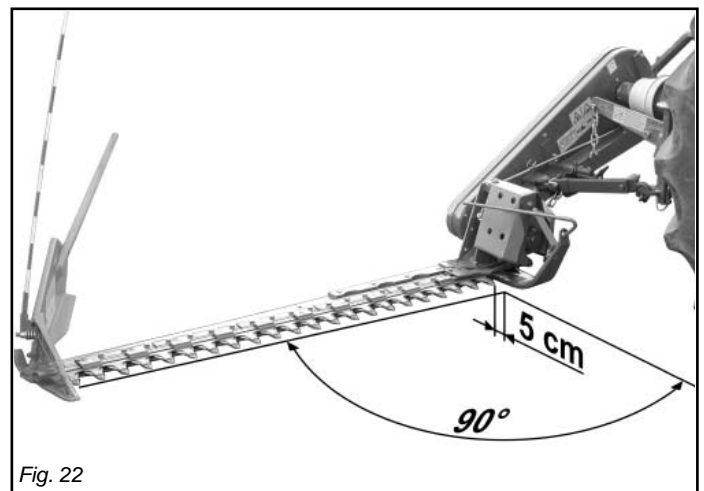

Fig. 22
- Fit the mower by adjusting the tractor tie-rods so that, when the mower attachment is fitted to the three points on the tractor, the external tip of the cutting arm is approximately 5 cm. forward with respect to the arm base (Fig. 22).